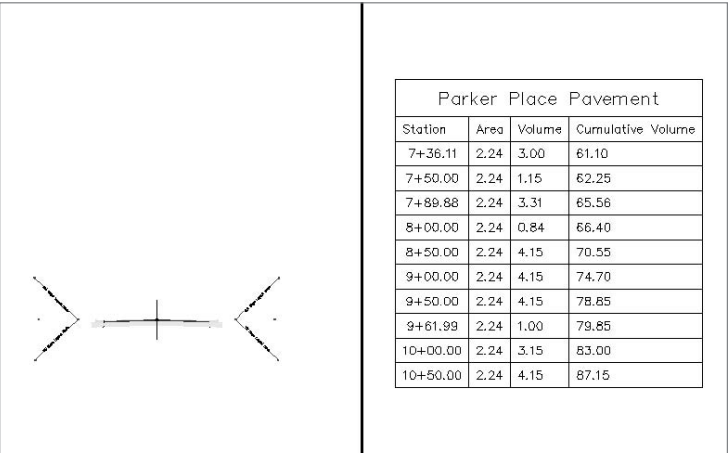

Figure 11.33
- 4. Click in the right viewport to activate it. Zoom in on the road assembly. Your screen should look similar to Figure 11.33.